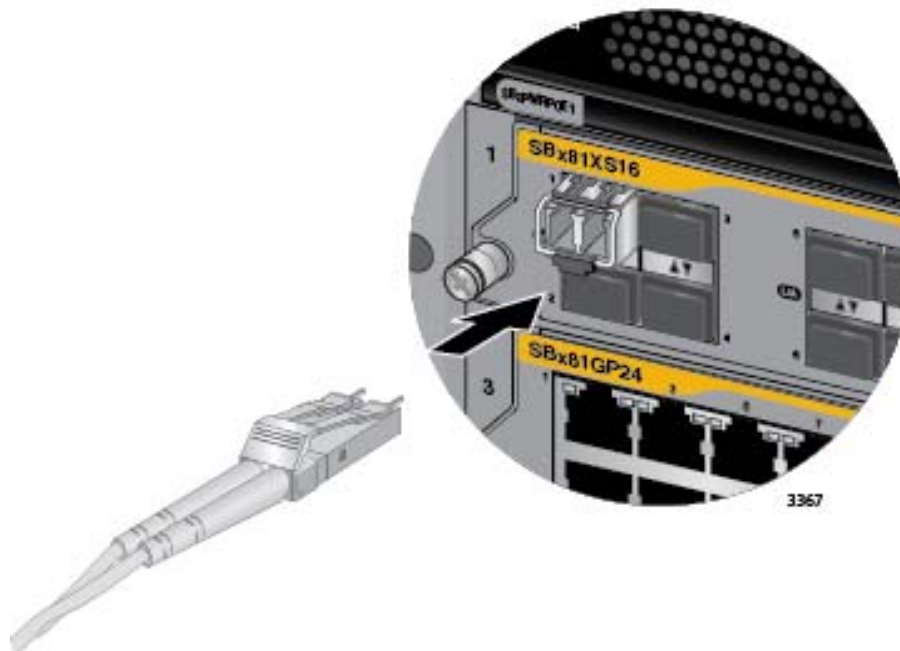

Figure 102. Attaching a Fiber Optic Cable to a Transceiver in the AT-SBx81XS16 Line Card
5. Connect the fiber optic cable to the port on the transceiver, as shown in Figure 102 on page 172. The connector should snap into the port.